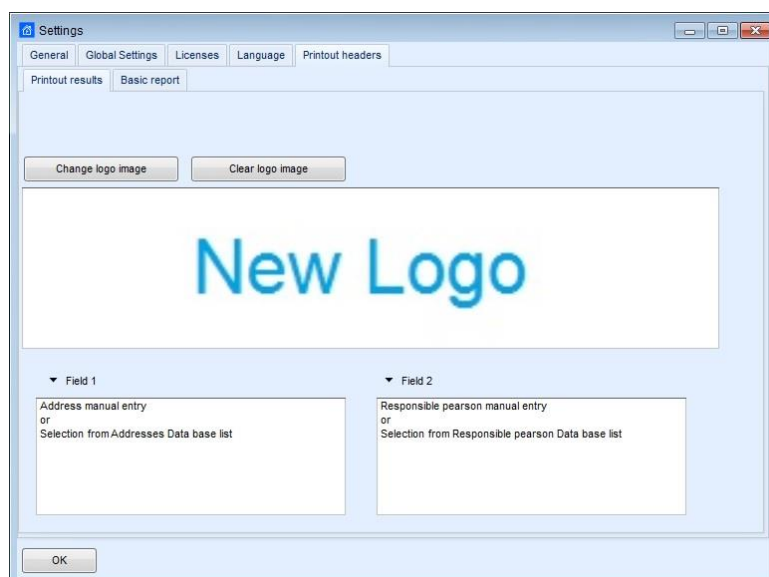

Figure 9.1: Print results Header setup
- Select Printout results tab (**Figure 9.1**) to open Header setup options: